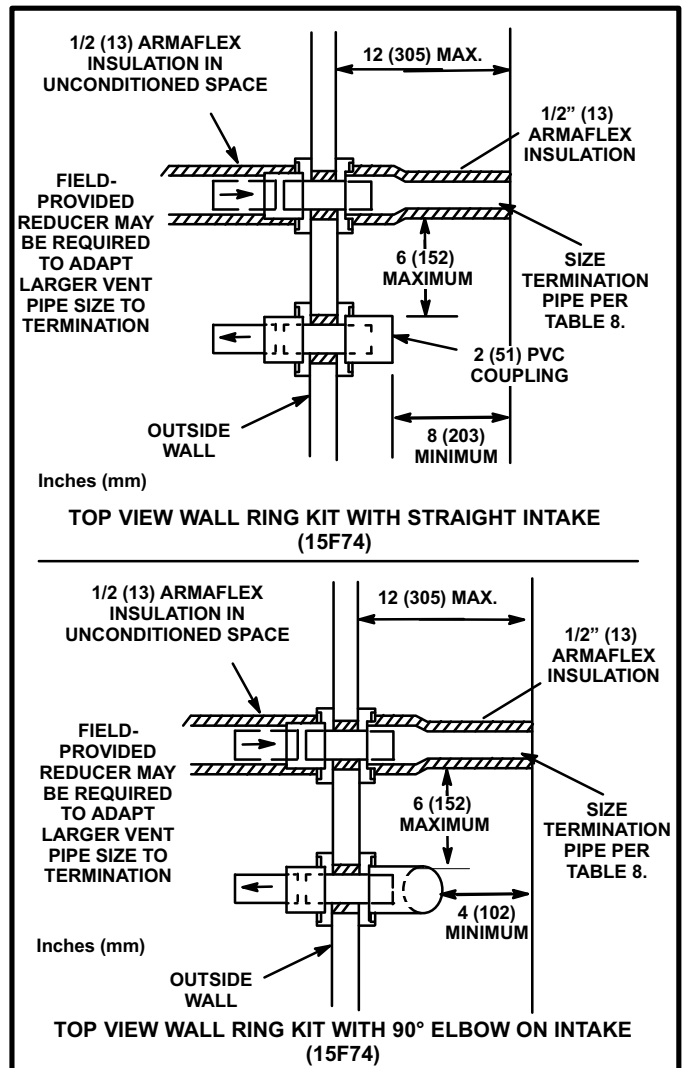

FIGURE 32
- 6 - On field supplied terminations for side wall exits, exhaust piping should extend a maximum of 12 inches (305mm) beyond the outside wall. Intake piping should be as short as possible. See figure 32.